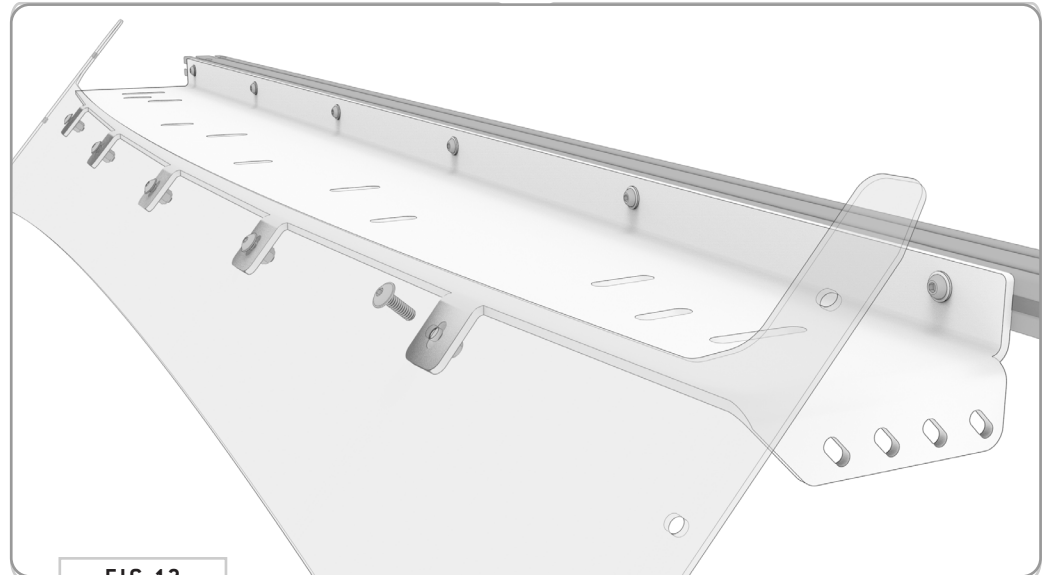

FIG 13
4.3 Attach Front Fairing: Attach the Front Fairing to the Assembly using 1/4-20 x 0.75 Flanged Button Head Screws, Flat Washers and Nylon Locknuts (FIG 13 + 14).